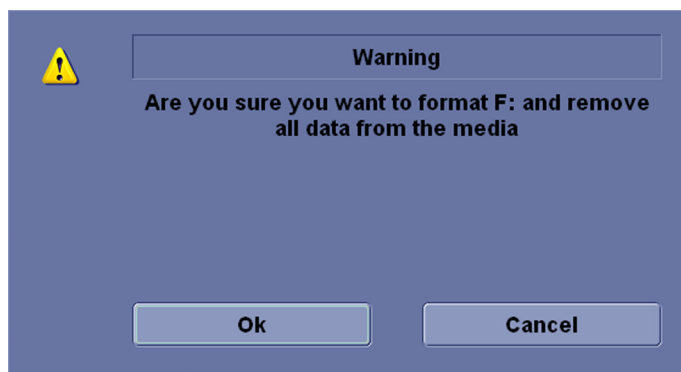

Figure 4-6. Format Warning Pop-up Window
4. The system displays a pop-up menu, as shown in Figure 4-6, select OK to continue.